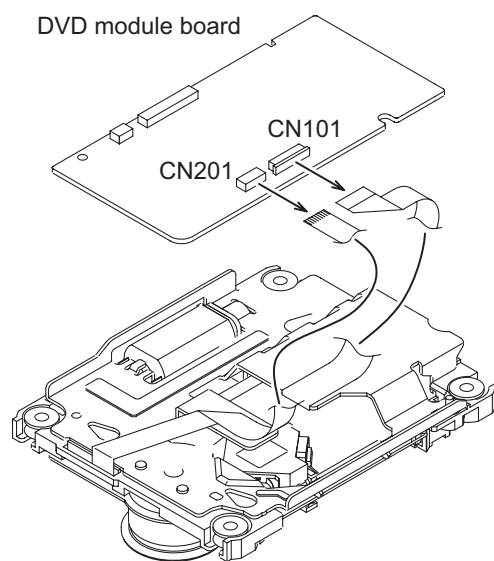

Fig.7
- (7) Disconnect the card wire from CN101 and CN201 on the DVD module board. (See Fig. 7)